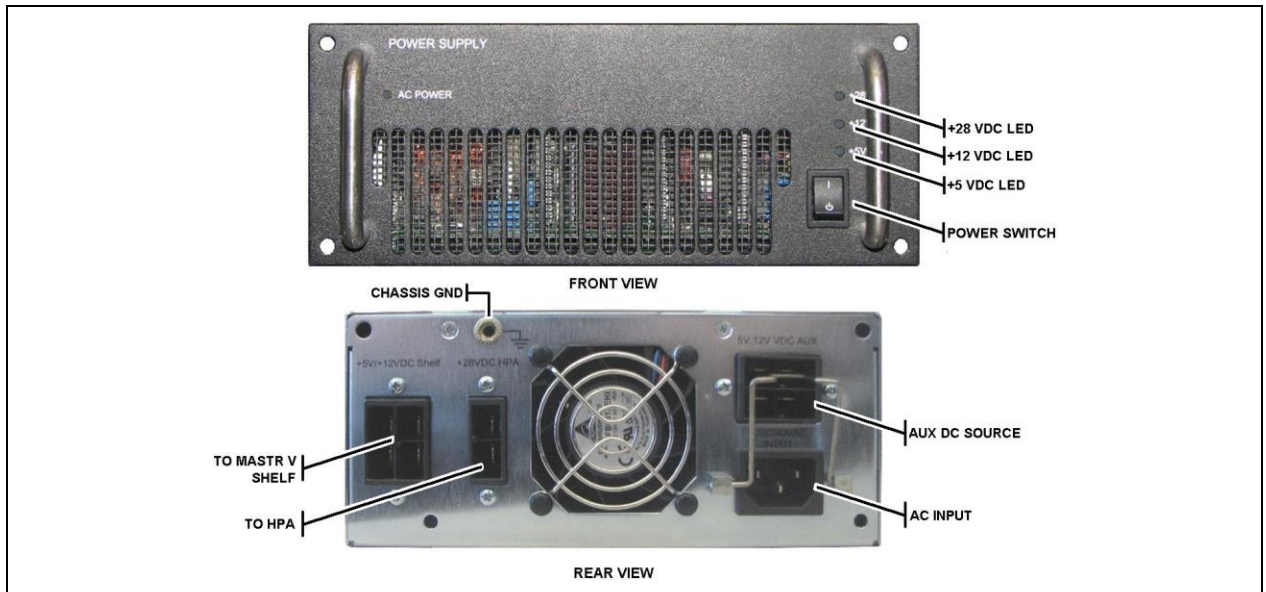

Figure 4-11: Power Supply Module
4.4.7.1 Power Supply Module (PS)
The MASTR V AC Power Supply (PS) module EA-555011-001 (refer to Figure 4-11) and DC Power Supply module EA-555001-003 (not shown) are continuous duty switching power supplies. The AC supply operates from an input of 85 VAC to 265 VAC at 47 Hz to 63 Hz (1000 Watts maximum). The DC supply operates from a -48VDC input and can operate from an input of -38 VDC to -57 VDC. Each PSU provides a maximum of 865 Watts total output power divided among the following three (3) DC outputs: